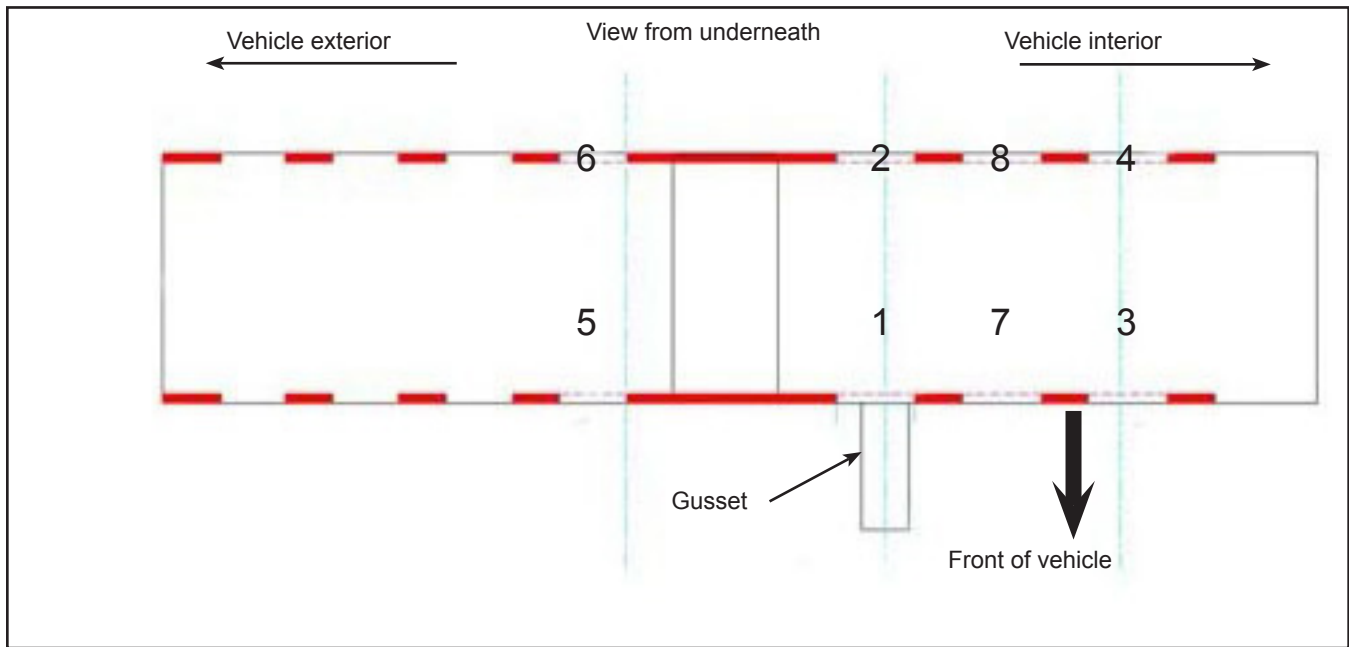

Figure 4 - Welding sequence
- 1.11. Weld the open spaces between each stitch weld on the beam. Do this at all cleaned locations. See Figure 4 for the welding sequence.